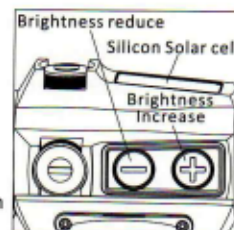

Fig5
- Switch on (see Fig5) :** Press and release either brightness button ("+" or "-") to turn on the sight.